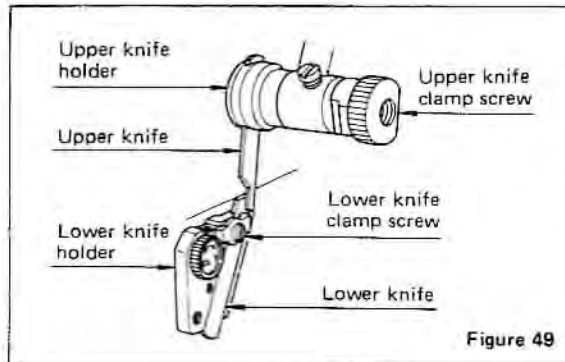

Figure 49
3. With right hand loosen the upper knife clamp screw and remove the upper knife from slot at the top of the holder (Figure 49).